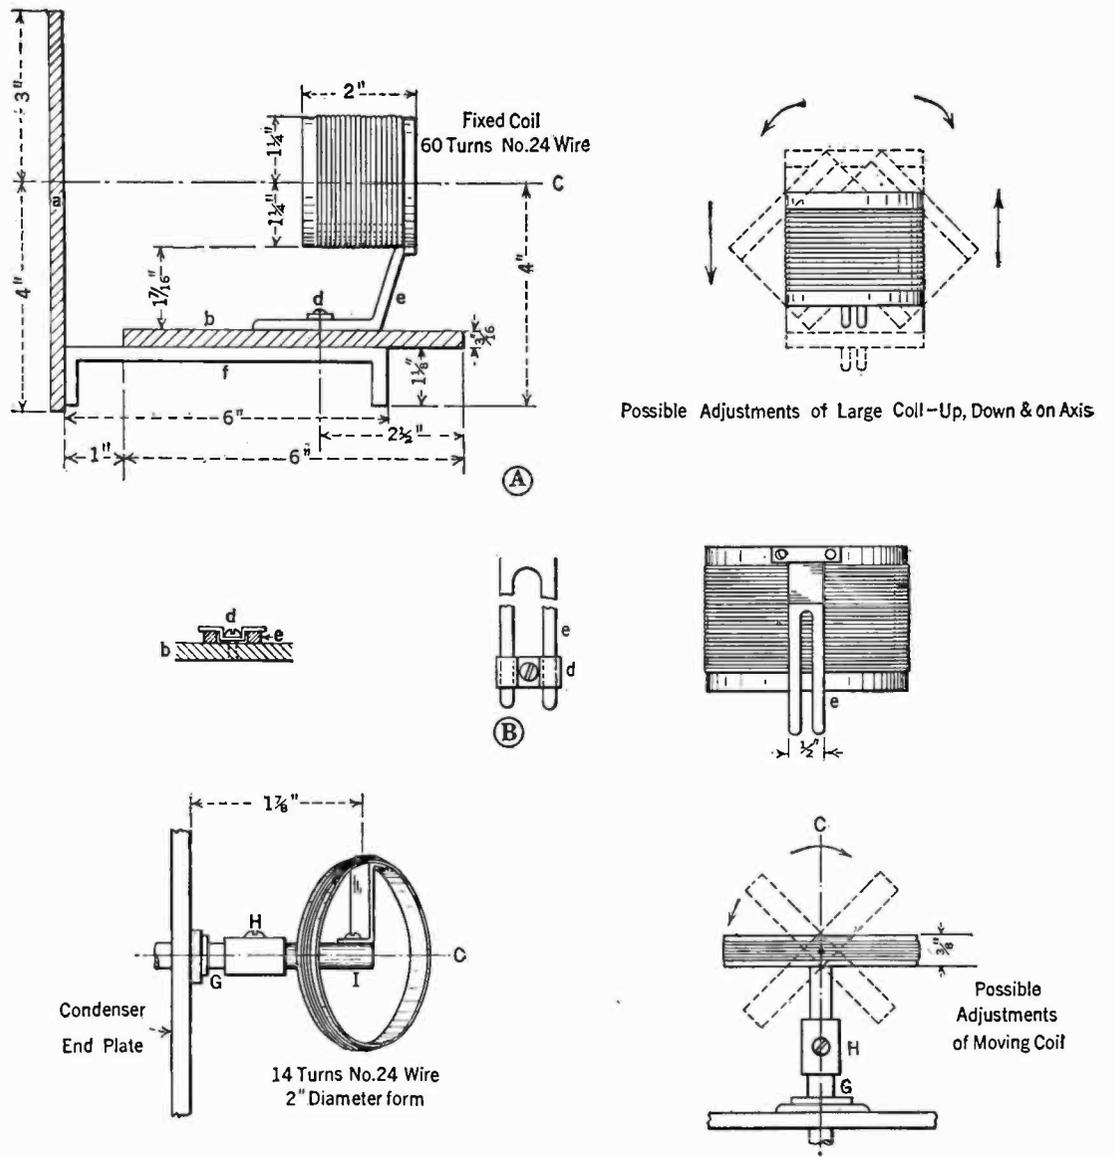

FIG. 2
**A**S WILL be seen in Fig. 2, the primaries are wound with fourteen turns of No. 24 wire on a 2-inch form, and the secondaries with 60 turns, of the same size wire, on  $2\frac{1}{2}$ -inch forms. It will be observed that relatively large primaries are made possible in the Equamatic arrangement, insuring adequate transfer of energy
The mechanics of securing this arrangement are illustrated in Fig 2. Drawing A shows the dimensional characteristics of the stationary coil mounting. The front panel is designed by a, the sub-panel by b; c, in all drawings, is a line passing through the center of the condenser shaft; d is a machine screw with a square washer holding the coil bracket, e, to the sub-panel; f is a bracket of  $\frac{1}{8}$ " brass strip, 6" long, holding the sub-panel to the control panel. Drawing B continues the details of the coil bracket, e, and the manner in which it slides through the swivel screw and washer d, on the sub-panel, b.
made clear by reference to Fig. 5. The reader interested in the mechanical construction of home-made mountings is referred to the preceding article, and to the data given in Fig. 2 of this article. The small "pillboxes" to the right of the two right-hand tubes are the retard coils.